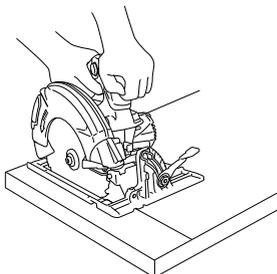
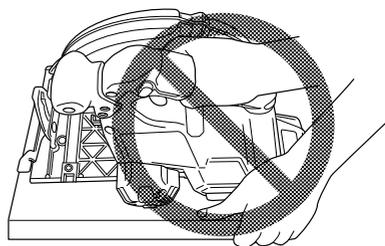

Fig. 2
Fig. 3
4. Place the wider portion of the saw base on that part of the work piece which is solidly supported, not on the section that will fall off when the cut is made. As examples, Fig. 2 illustrates the RIGHT way to cut off the end of board, and Fig. 3 the WRONG way. If the work piece is short or small, clamp it down. **DON'T TRY TO HOLD SHORT PLACES BY HAND!**